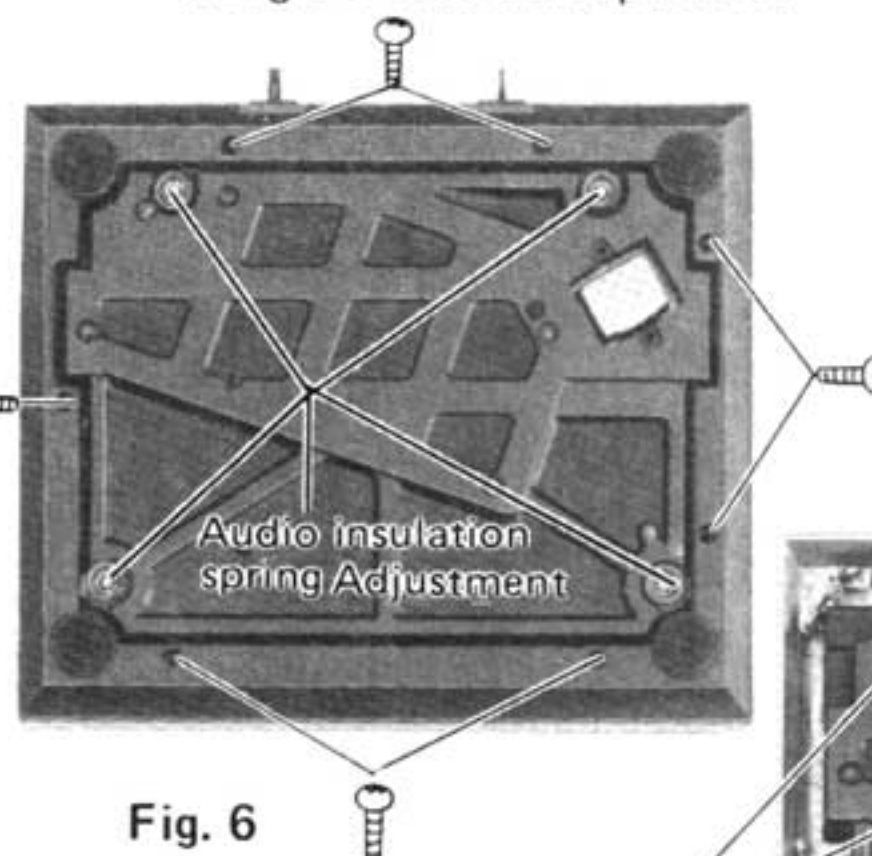

Fig. 6
6. Remove the 7 screws from bottom cabinet (Fig. 6).